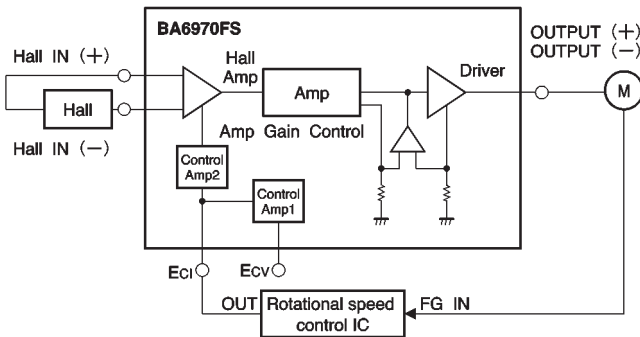

Fig.6
(1) The signal from the Hall device is amplified by the Hall amplifier and then supplied to the driver circuit. The driver gain, which is constant, is regulated by changing the Hall amplifier gain with the E_{CI} input current or the E_{CV} input voltage (E_{CI} and E_{CV} are output current control pins). The motor rotational speed is sensed by the FG, and the output from which is F / I-converted and supplied to the E_{CI} pin or F / V-converted and supplied to the E_{CV} pin as a feedback signal, so that a constant rotational speed is maintained as follows (Fig. 6) :